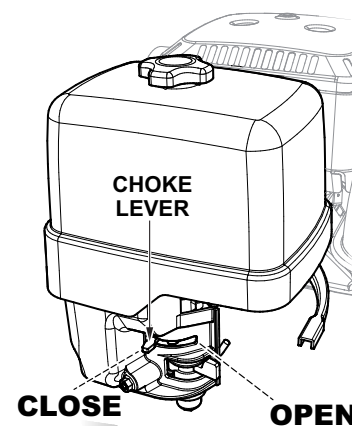

Figure 13. Engine Choke Lever (Closed)
5. If starting a cold engine, place the choke lever (Figure 13) in the **CLOSED** position.